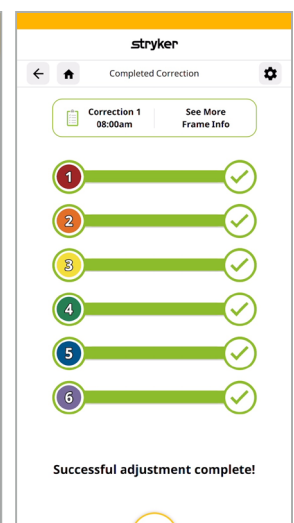

Figure 44
- The strut controllers will continue to adjust until all struts have been corrected according to the plan. Upon successful completion of the corrections, the message “Successful adjustment complete!” will display **(Figure 44)**, and the app will play a tone.